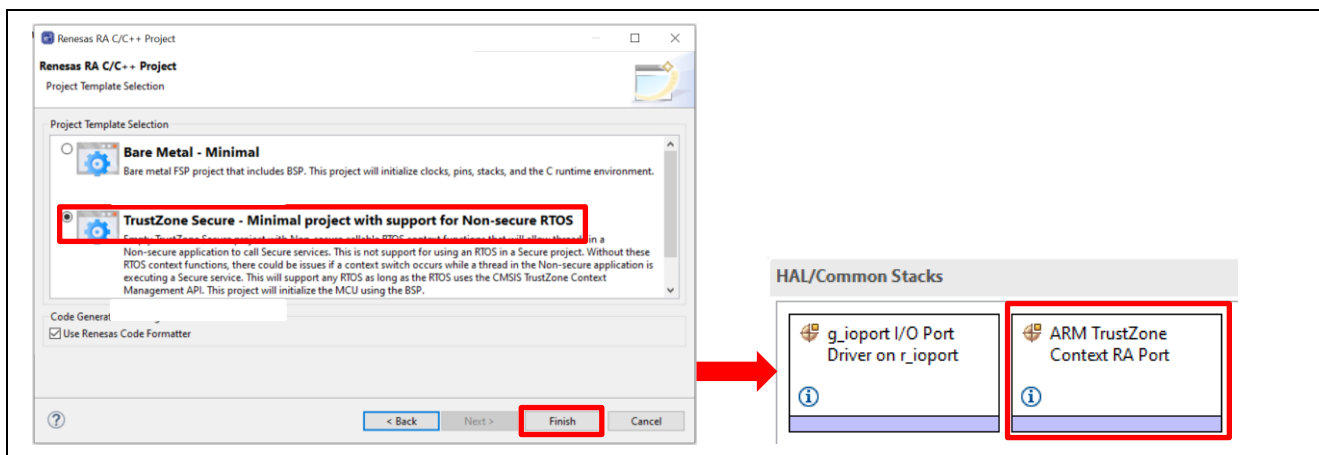

Figure 30. Adding the TrustZone Context RA Port
- Secure projects will add the required RTOS context in the Secure region for the Thread that needs to access the NSC APIs in an RTOS enabled project. When this project type is selected, the Arm TrustZone Context RA Port will be added as shown in Figure 30.